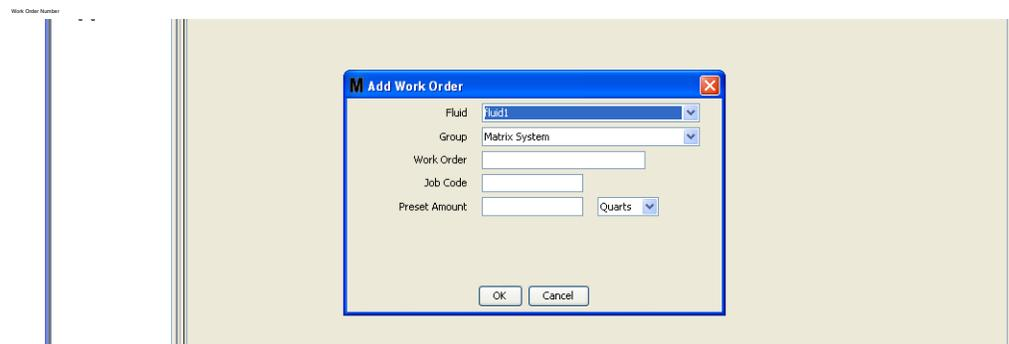

FIG. 116
4. The Add Work Order popup screen is shown in FIG. 116.